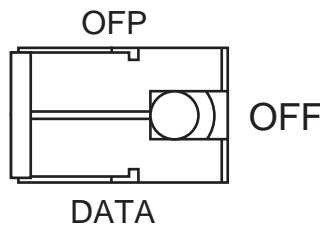

Figure 1-76 Zeroize Switch
**Zeroize Switch.** The Zeroize switch (Figure 1-76) is a mechanically guarded three position switch located on the right console immediately aft of the side-stick controller. OFF is the normal position for the switch.